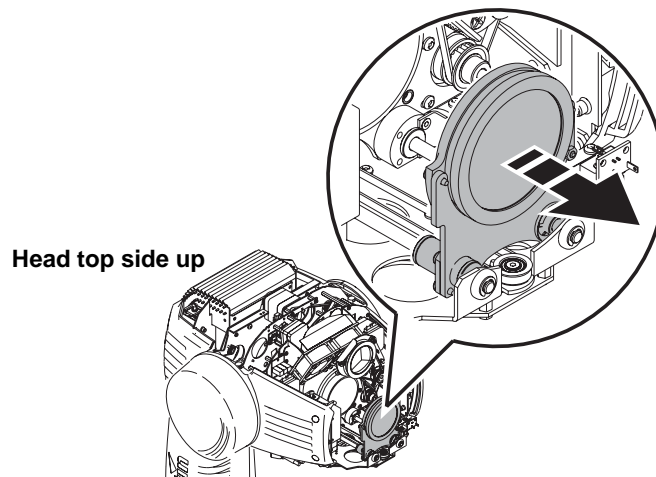

Figure 17: Moving the focus lens forward
4. Position the head top side up so that you have access through the top. Holding the focus lens by its base, slide it out to its limit at the front of the fixture as shown in Figure 17.